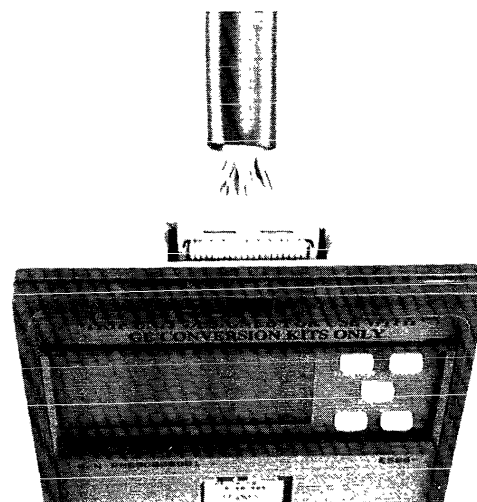

Figure 2. Connecting the Remote Display Harness to the trip unit.
5. Plug one end of the Remote Display Harness into the top of the trip unit, as illustrated in Figure 2. The harness is polarized and will only plug into the trip unit one way.